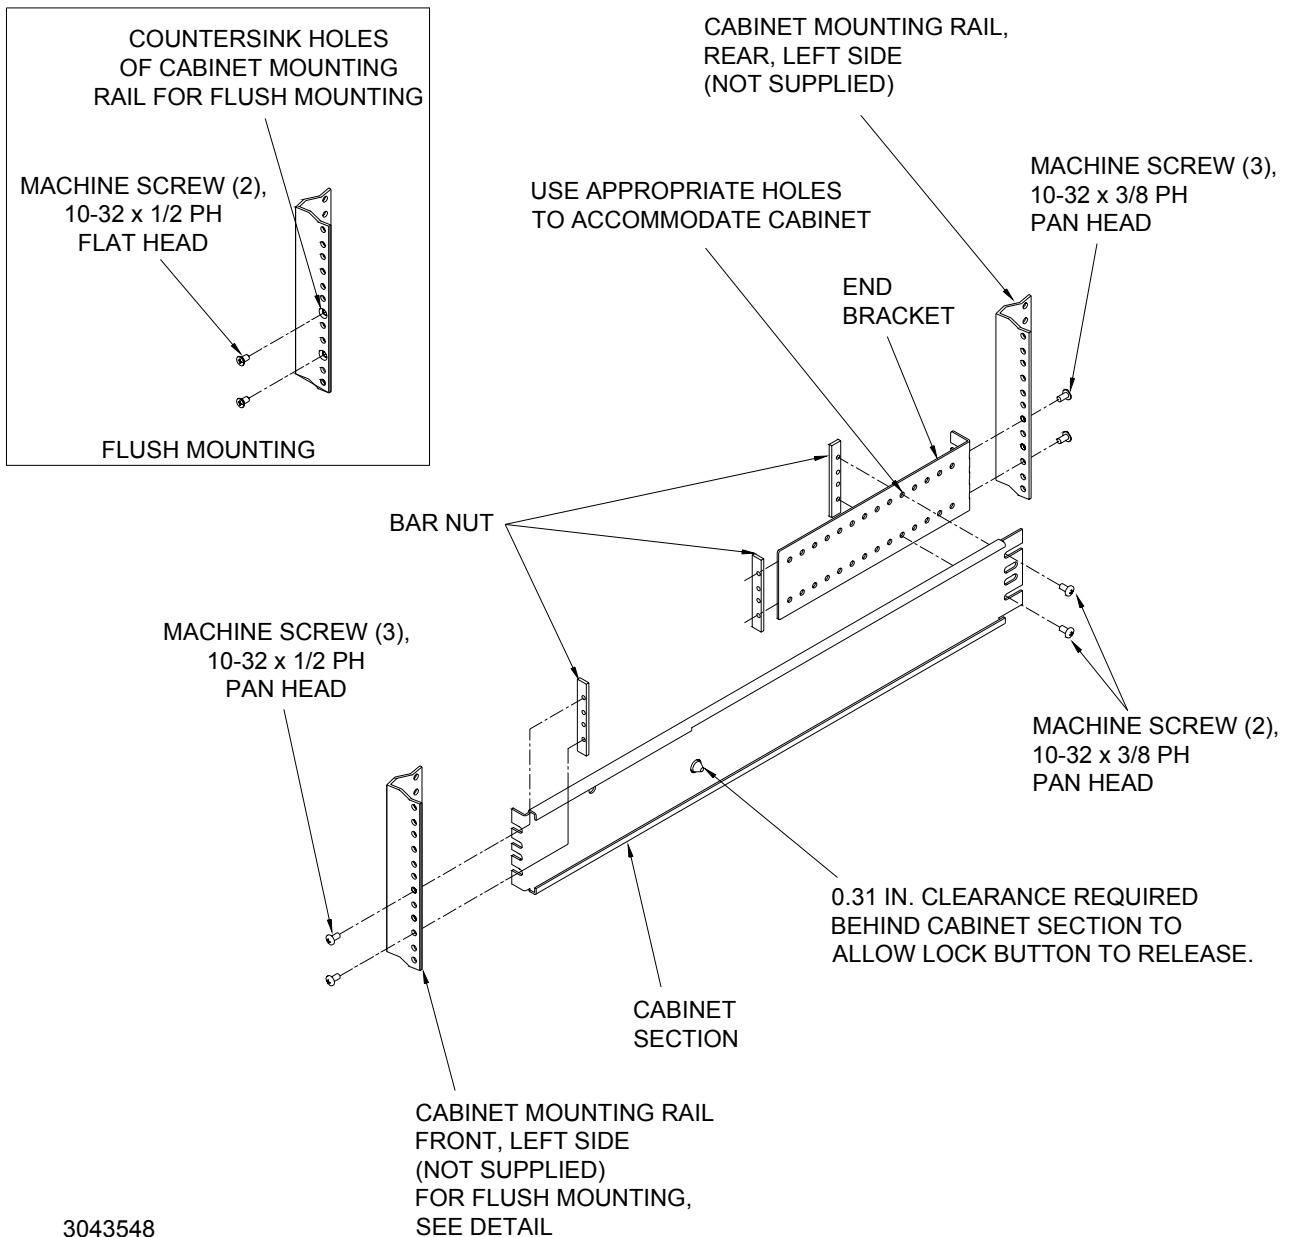

FIGURE 3. ATTACHING END BRACKETS AND CABINET MOUNTING RAILS TO CABINET SECTION
3. Attach two end brackets to the two cabinet sections of slides using four screws and two bar nuts (see Figure 3). Use appropriate holes to accommodate cabinet.